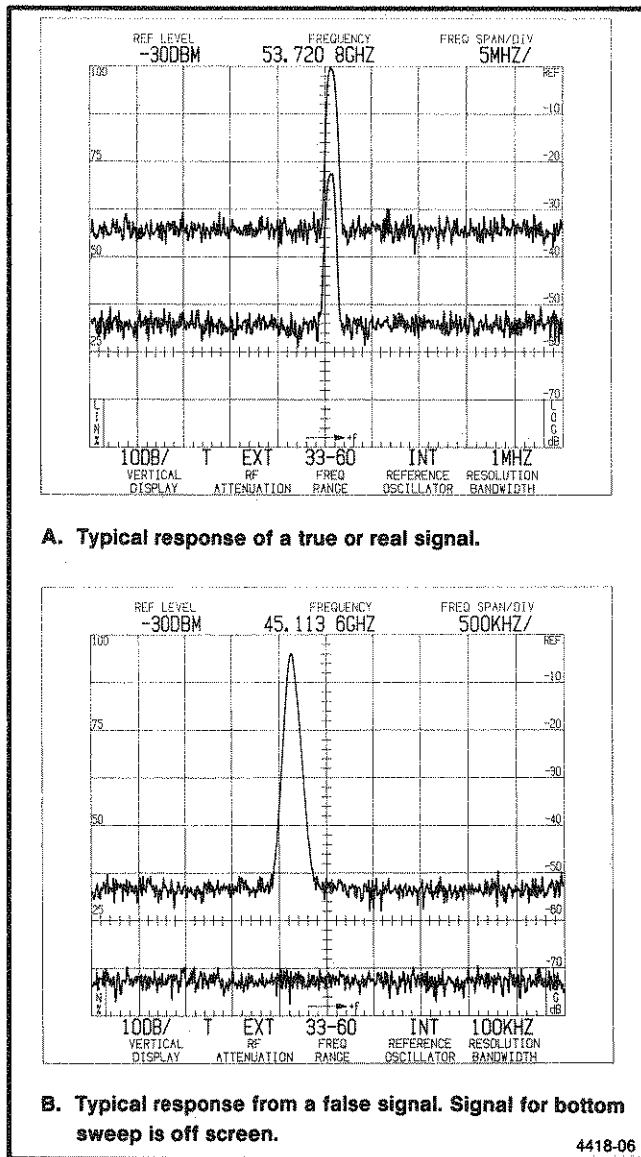

Figure 5-4. Using IDENT feature to identify a real or true response.
(1) With the 500 MHz marker tuned to center frequency, decrease the FREQ SPAN/DIV to 50 kHz or less and press IDENT.
(2) Note that there is no horizontal displacement of the 500 MHz signal on alternate sweeps. To help determine if the signal is true or spurious, (see Figure 5-4) decrease the sweep rate, or activate SAVE A with both VIEW A and VIEW B on, so a comparison can be easily made.
(3) Switch IDENT off.